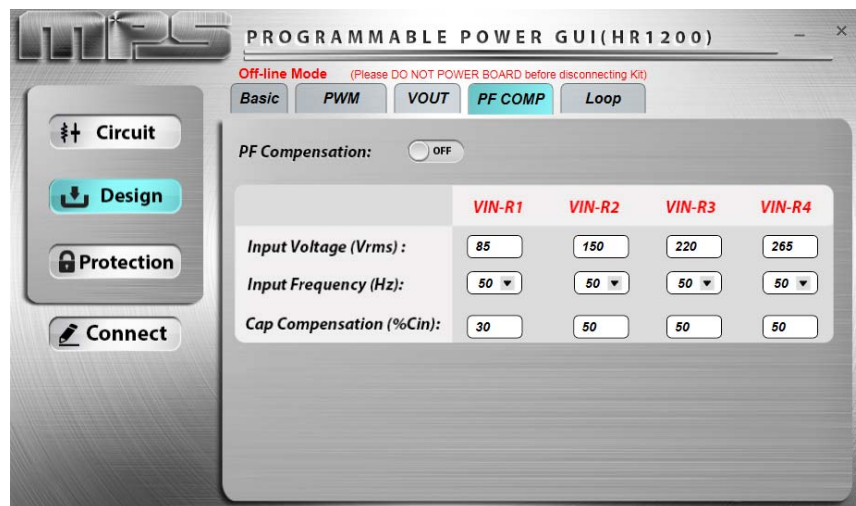

Figure 13: PF COMP Design Panel
This panel configures the PF compensation parameters, which can improve the power factor (PF) of the PFC stage. Compensation can be controlled in different degrees according to different input ranges (see Figure 13). Five factors influence the compensation degree: *Cin* and *Rcs* in “Circuit” panel, *Input Voltage*, *Input Frequency*, and *Cap Compensation*.